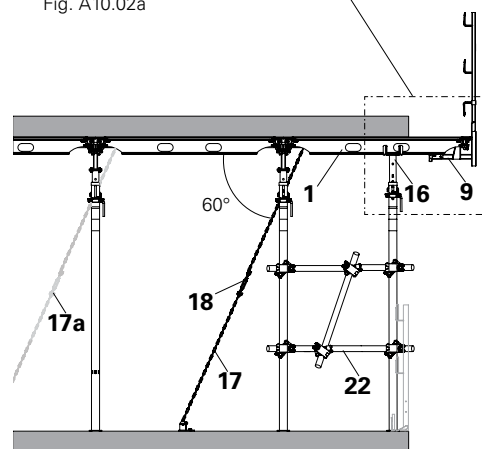
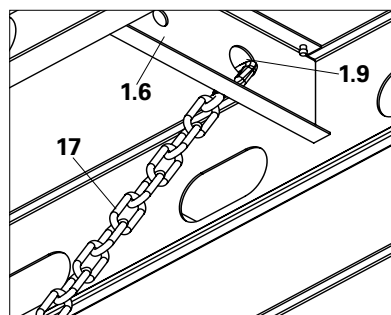

Fig. A10.02
Fig. A10.03
1. Install the panel ADP (1) along with guardrail holder ADG (9). (Fig. A10.02)
2. Attach the crosshead ADC (16) with prop to support the panel ADP (1).
3. Secure the cantilever using anchor chain 3.0 kN (17). (Fig. A10.02 + Fig. A10.03)
- Attach the anchor chain (17) to the hole (1.9) provided on stiffener (1.6) of the panel ADP (1). (Fig. A10.03)
4. Install additional Z-bracings for stability of props at periphery. e.g. bracings using pipes and couplers. (Fig. A10.02)